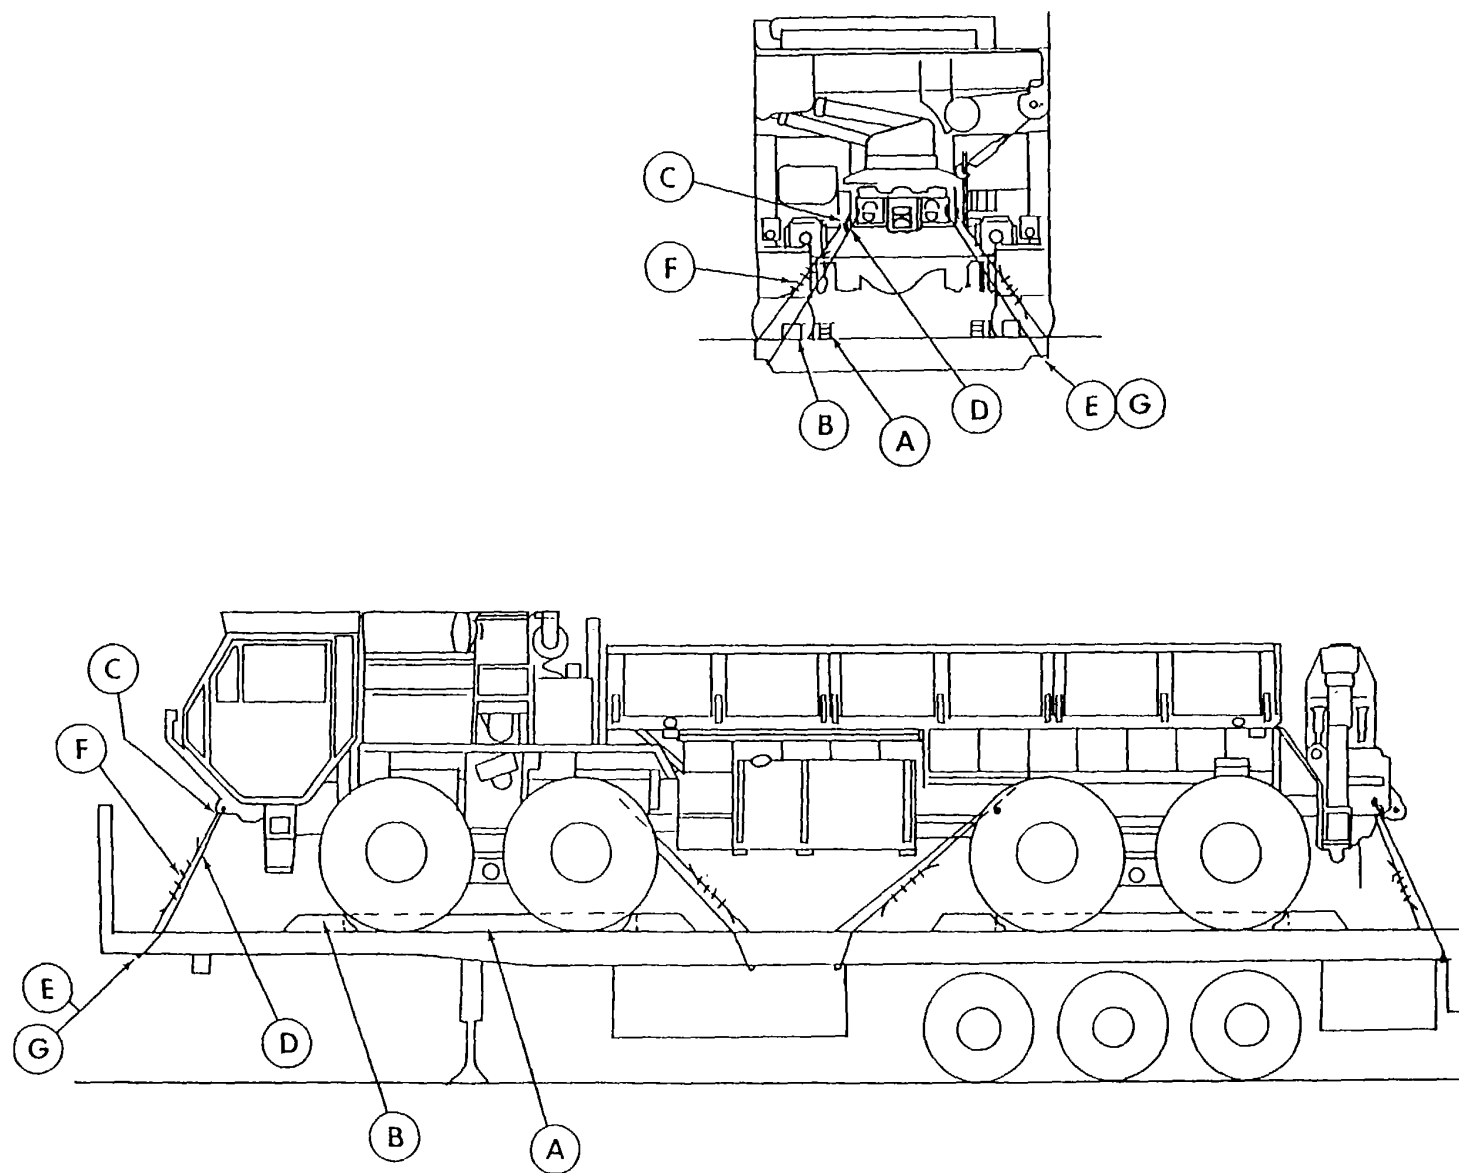

Figure 5-1. Blocking and tiedown diagram for the M985E1, M983, or M977 on an M872 semitrailer.
- (1) The M985E1, M983, and M977 may be driven onto the semitrailer by using suitable ramps or a loading deck. They may be lifted onto the semitrailer by a crane of adequate capacity, as described in paragraph 6-4b(1).
- (2) The bill of materials for blocking and tiedown of the M985E1, M983, and M977 on a semitrailer is shown in table 5-1. A blocking and tiedown diagram compatible with standard loading practices that will offer adequate restraint is provided in figure 5-1. Data concerning application of materials are provided in table 5-2.
Table 5-1. Bill of Materials for Blocking and Tiedown of the M985E1, M983, or M977 on an M872 Semitrailer (Fig 5-1)
Table 5-1. Bill of Materials for Blocking and Tiedown of the M985E1, M983, or M977 on an M872 Semitrailer (Fig 5-1)Continued
Table 5-2. Application of Materials for Blocking and Tiedown of the M985E1, M983, or M977 on an M872 Semitrailer (Fig 5-1)
Table 5-2. Application of Materials for Blocking and Tiedown of the M.985E1, M983, or M977 on an M872 Semitrailer (Fig 5-1)Continued No.